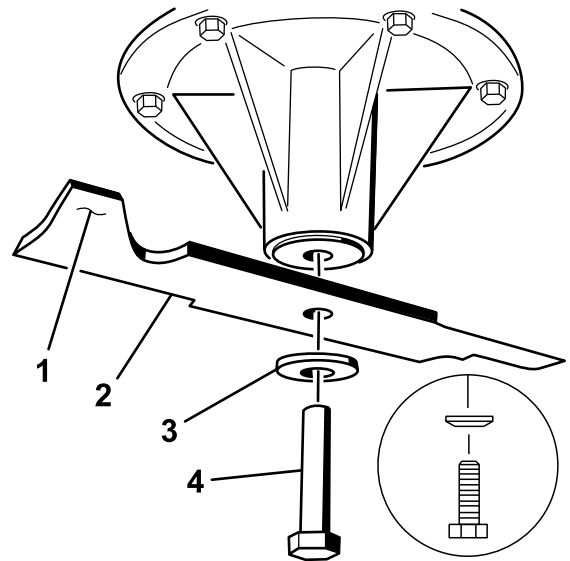
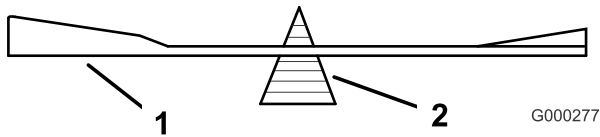

Figure 98
Figure 100
2. Remove the blade bolt, curved washer, and blade from the spindle shaft (Figure 98).
2. Check the balance of the blade by putting it on a blade balancer (Figure 100). If the blade stays in a horizontal position, the blade is balanced and can be used. If the blade is not balanced, file some metal off the end of the sail area only (Figure 98). Repeat this procedure until the blade is balanced.